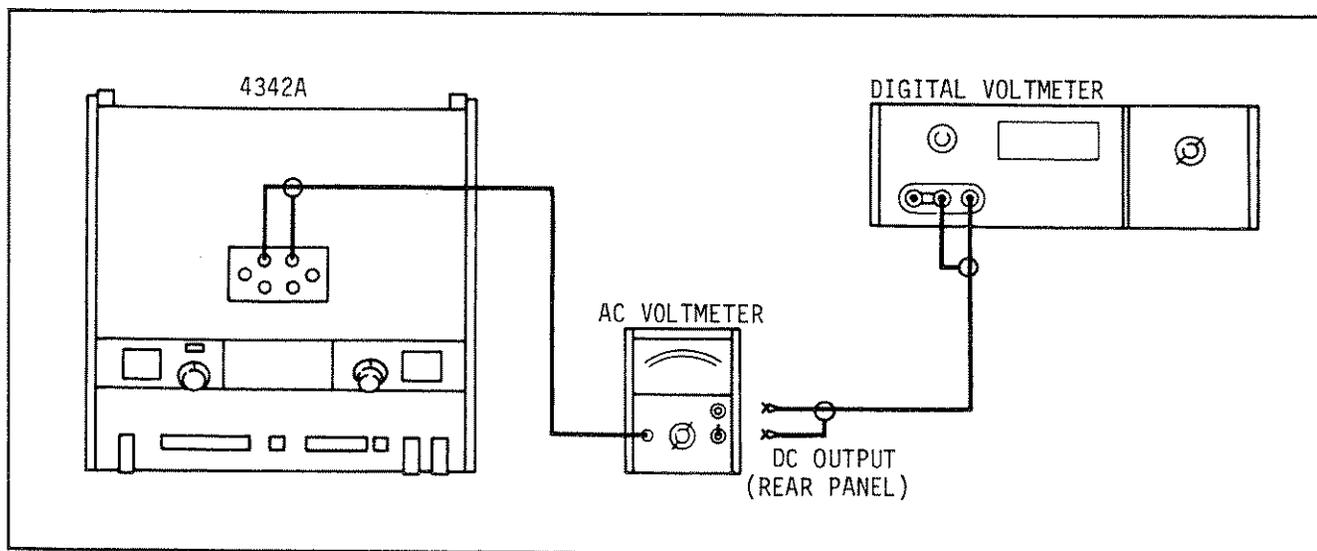

Figure 5-1. Q Range Check.
- a. Connect an AC Voltmeter to 4342A LO and GND terminals as shown in Figure 5-1. Connect Digital Voltmeter to AC Voltmeter dc output terminals.